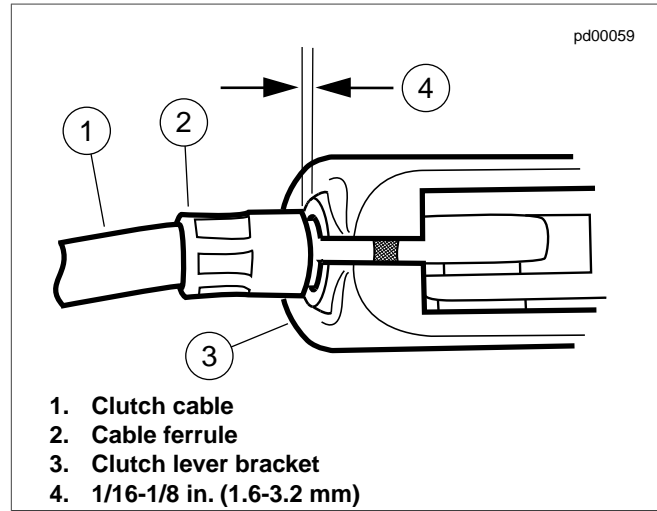

Figure 1-22. Clutch Hand Lever
- b. See Figure 1-22. Pull clutch cable ferrule (2) away from clutch lever bracket (3) to check freeplay. Turn cable adjuster as necessary to obtain 1/16-1/8 in. (1.6-3.2 mm) freeplay between end of cable ferrule and clutch lever bracket.